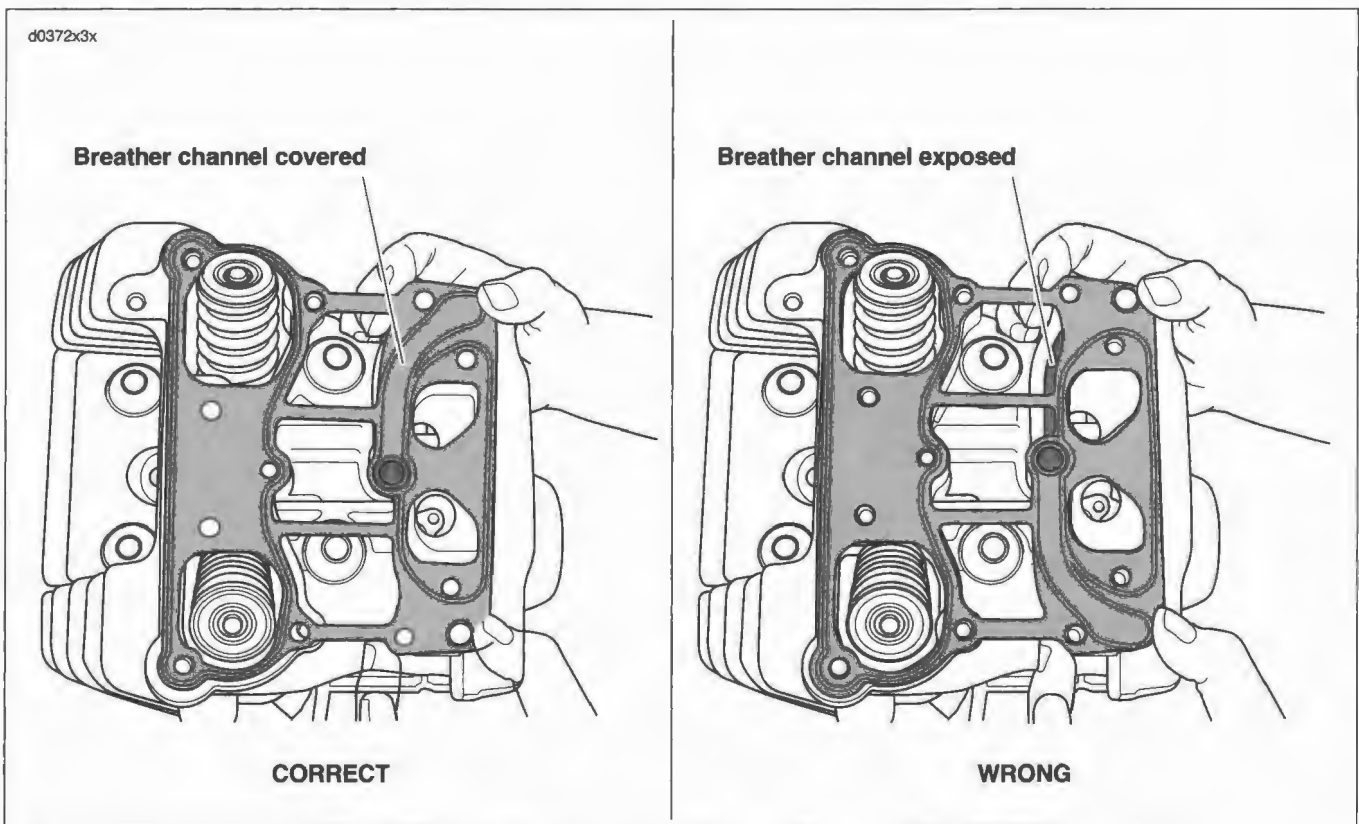

Figure 3-40. Install Rocker Housing Gasket (Rear Cylinder Shown)
6. See Figure 3-40. Install a **new** rocker housing gasket on the cylinder head flange. Verify that the rocker housing gasket covers the breather channel.